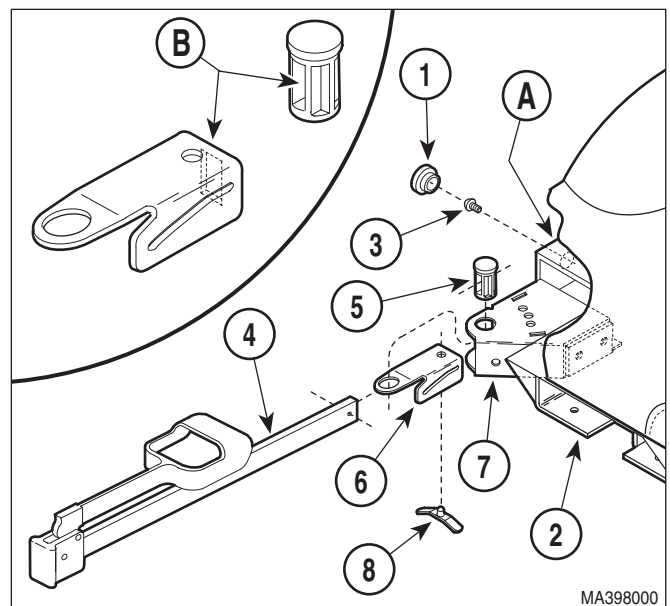

Figure 4-32. Stirrup Assembly And Components Removal / Installation
- (1) Remove hole plug (1, Figure 4-32) from access hole (A) in seat weldment (2).